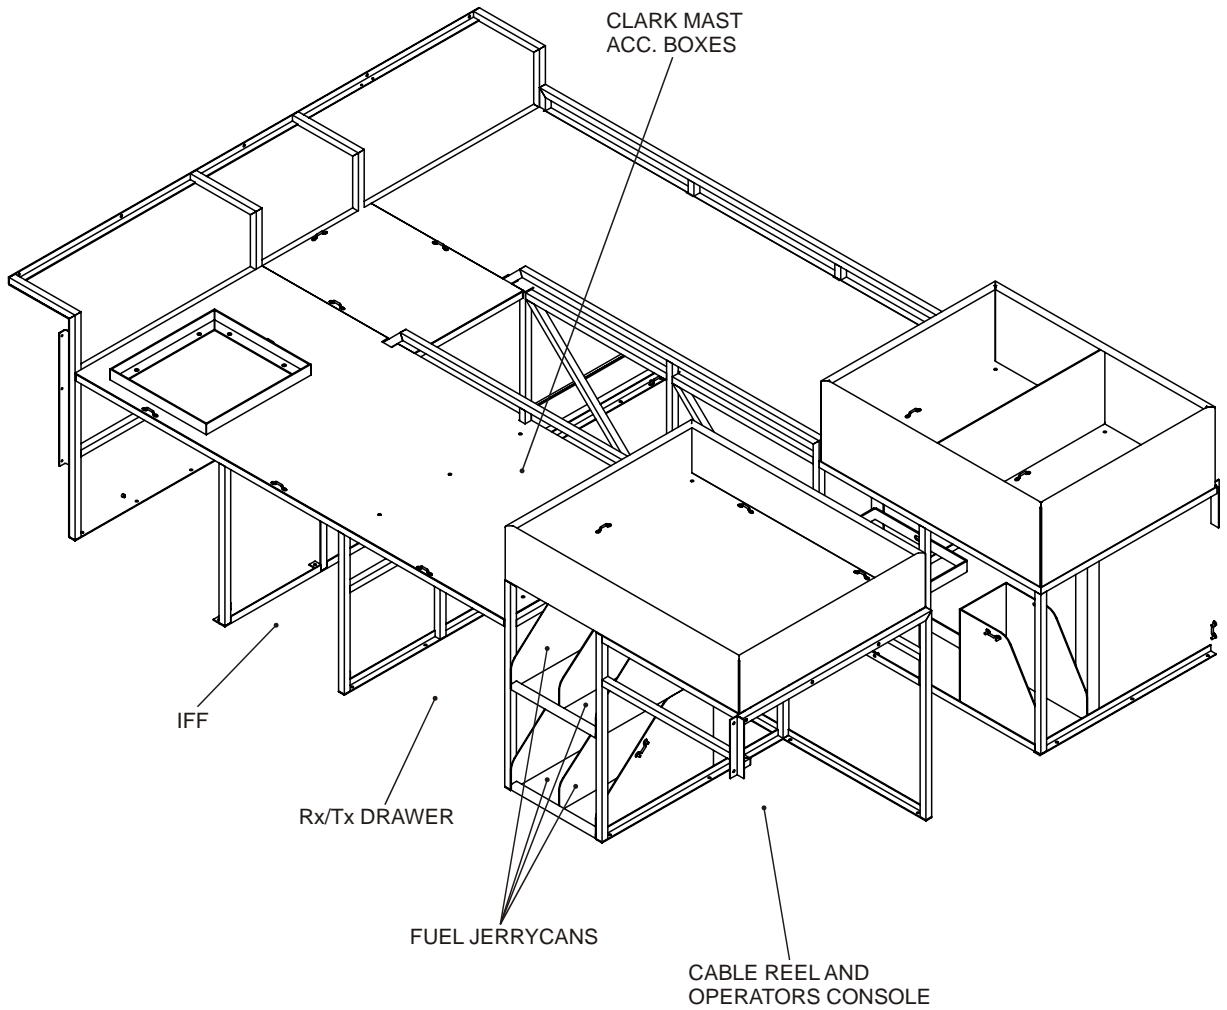

Figure 4 TSV Racking Framework
4. Equipment stowage is provided for (Figure. 4):